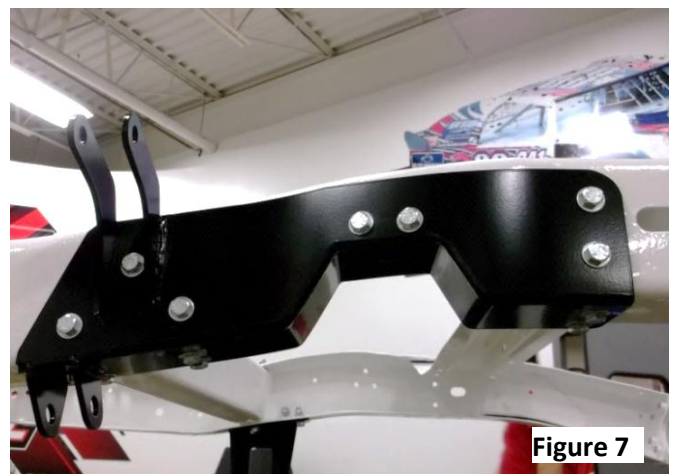

Figure 7
10. Install the C-notch brackets with 3/8" x 1 1/4" bolts using the existing holes from the panhard bar cross member rivets and the bump stop locations **tightening the bottom bolts first**. **Figure 7**